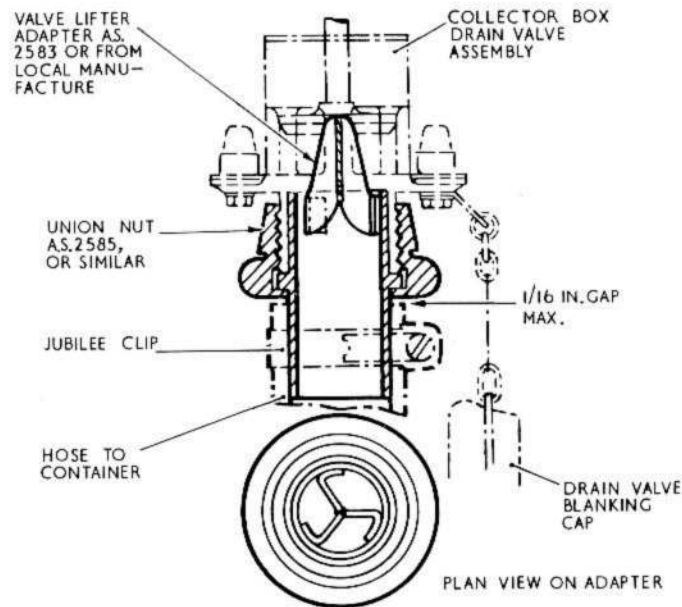

Fig. 4. Fuselage tanks draining adapter
(5) Fit a special drain adapter (fig. 4), connected to a suitable length of  $1\frac{1}{4}$  in. hose, to the drain valve in the rear wall of the collector box, and lead the hose into a suitable container.
(6) Switch the fuel transfer cock switch TRANSFER TO BELLY TANK (Sect. 1, Chap. 1, fig. 4, item 15) to ON.
(7) When the fuel ceases to flow the top tanks will be empty, but there will still be approximately 30 gall. of fuel remaining in the belly tank and collector box. This fuel may be drained by depressing the spring-loaded drain plugs in the base of the tank and the collector box and draining the fuel into a suitable container.